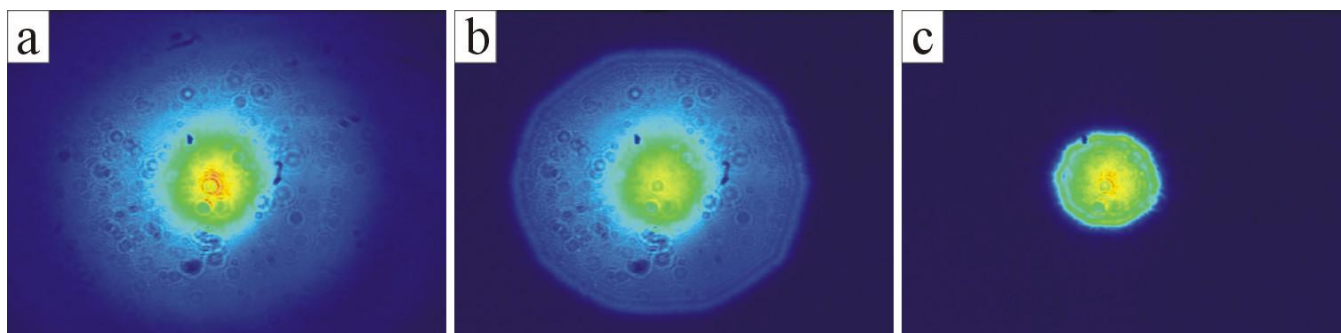

FIGURE 9:
- FIGURE 9 shows beam profile taken with the CCD beam profiler placed behind the alignment iris 2 with the iris (a) fully open and (b) (c) partially closed. The beam profile is concentric with the iris, which is indication of good alignment. (If the beam profile is not concentric, then adjust M3 and M4 as in step 4 until it resembles Figure 7).